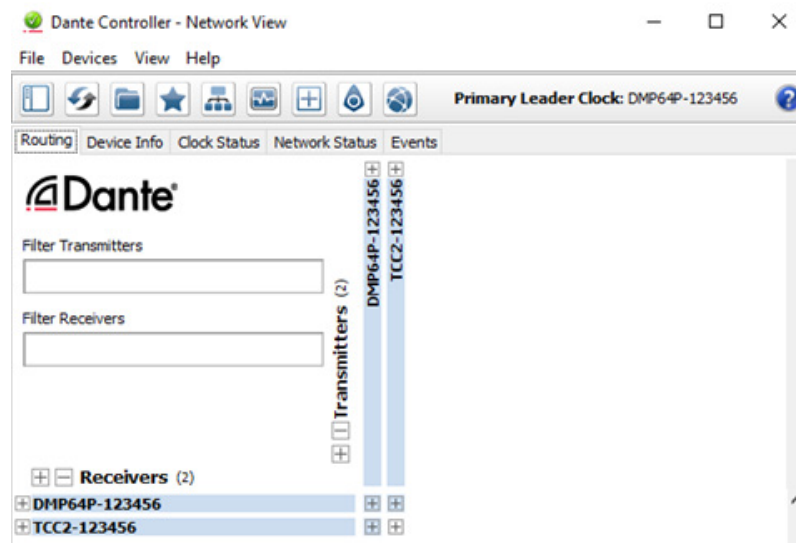

Figure 8. Routing Tab of Network View Screen
2. From the Windows Start Menu select: All Programs > Audinate > Dante Controller. The Dante Controller - Network View screen opens. Dante Controller auto-discovers Dante devices on the network and advertises itself to allow other Dante-enabled devices to communicate with it. Transmitters connect to receivers using the subscription matrix (see figure 8).